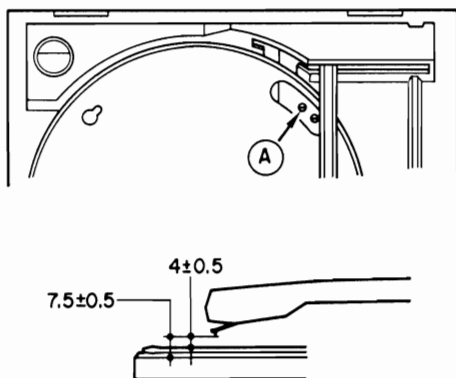

Figure 20
3. Remove the record and the turntable sheet and align the hole of the turntable so that the adjustment hole on the inside of the cabinet is visible as shown in Figure 20.
5. Turn and adjust eccentric pin (A) on the left side from the adjustment hole of the turntable.